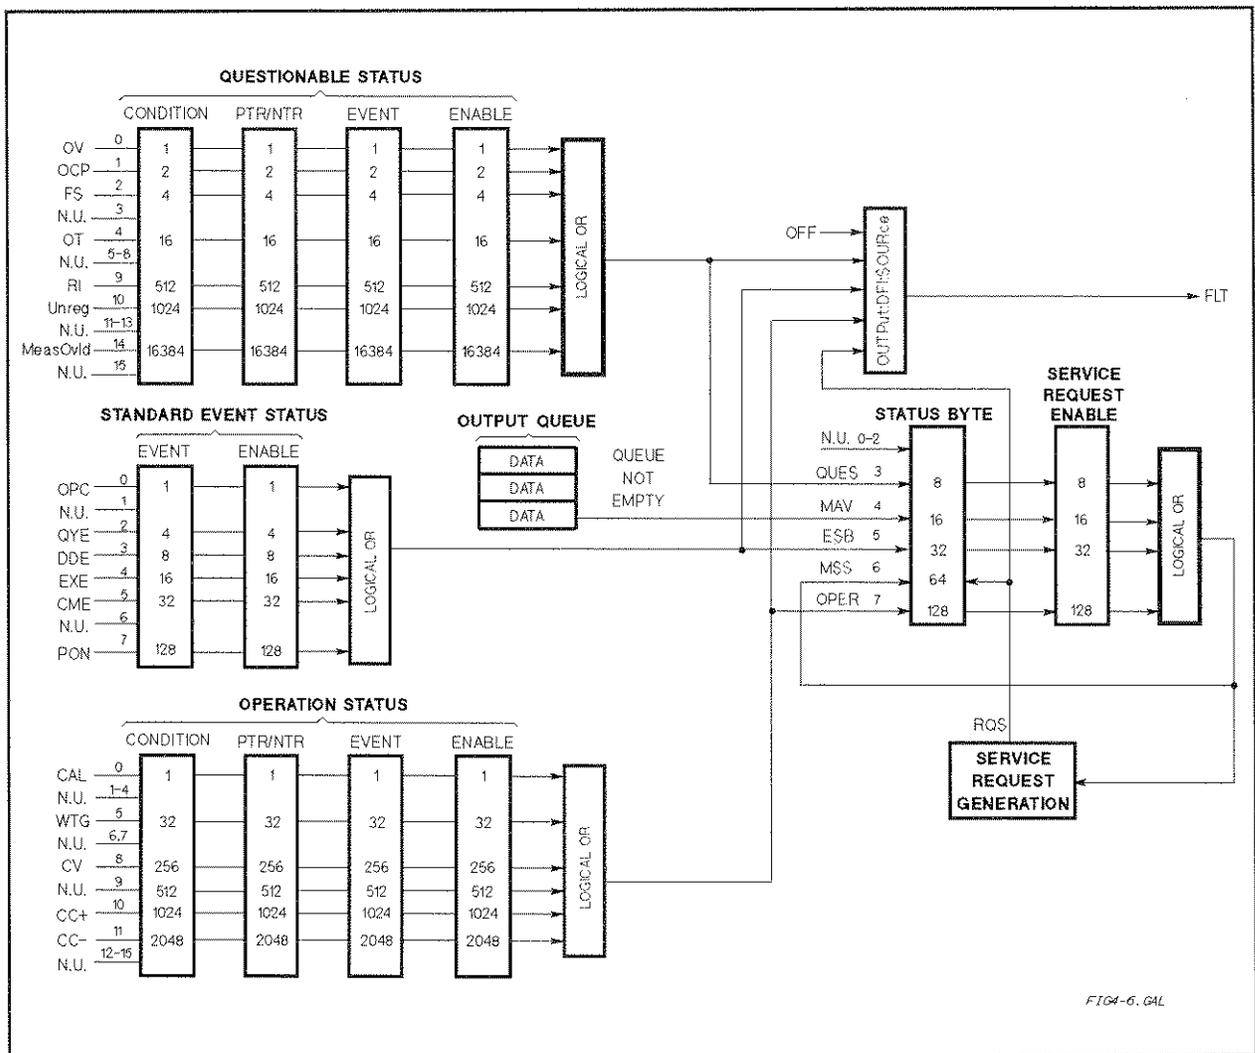

Figure 3-7. DC Source Status Model
Figure 3-7 shows the status register structure of the dc source. Table 3-1 defines the status bits. The Standard Event, Status Byte, and Service Request Enable registers and the Output Queue perform standard HP-IB functions as defined in the *IEEE 488.2 Standard Digital Interface for Programmable Instrumentation*. The Operation Status and Questionable Status registers implement functions that are specific to the dc source.
The Questionable Status registers record signals that indicate abnormal operation of the dc source. As shown in figure 3-7, the group consists of the same type of registers as the Status Operation group. The outputs of the Questionable Status group are logically-ORed into the QUEStionable summary bit (3) of the Status Byte register.
This group consists of an Event register and an Enable register that are programmed by Common commands. The Standard Event event register latches events relating to instrument communication status (see figure 3-7). It is a read-only register that is cleared when read. The Standard Event enable register functions similarly to the enable registers of the Operation and Questionable status groups.
This example assumes you want a service request generated whenever the dc source switches to the CC (constant current) operating mode, or whenever the dc source's overvoltage, overcurrent, or overtemperature circuits have tripped. From figure 3-7, note the required path for a condition at bit 10 (CC) of the Operation Status register to set bit 6 (RQS) of the Status Byte register. Also note the required path for Questionable Status conditions at bits 0, 1, and 4 to generate a service request (RQS) at the Status Byte register. The required register programming is as follows: